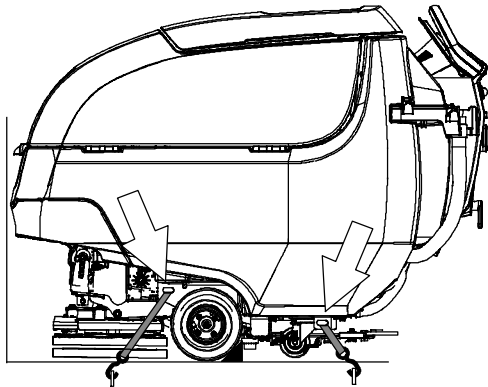

FIG. 146
4. Place a block behind each wheel (Figure 146).
5. Using tie-down straps, secure the machine using the four tie-down brackets located on the machine frame (Figure 146). It may be necessary to install tie-down brackets to the floor of your trailer or truck.